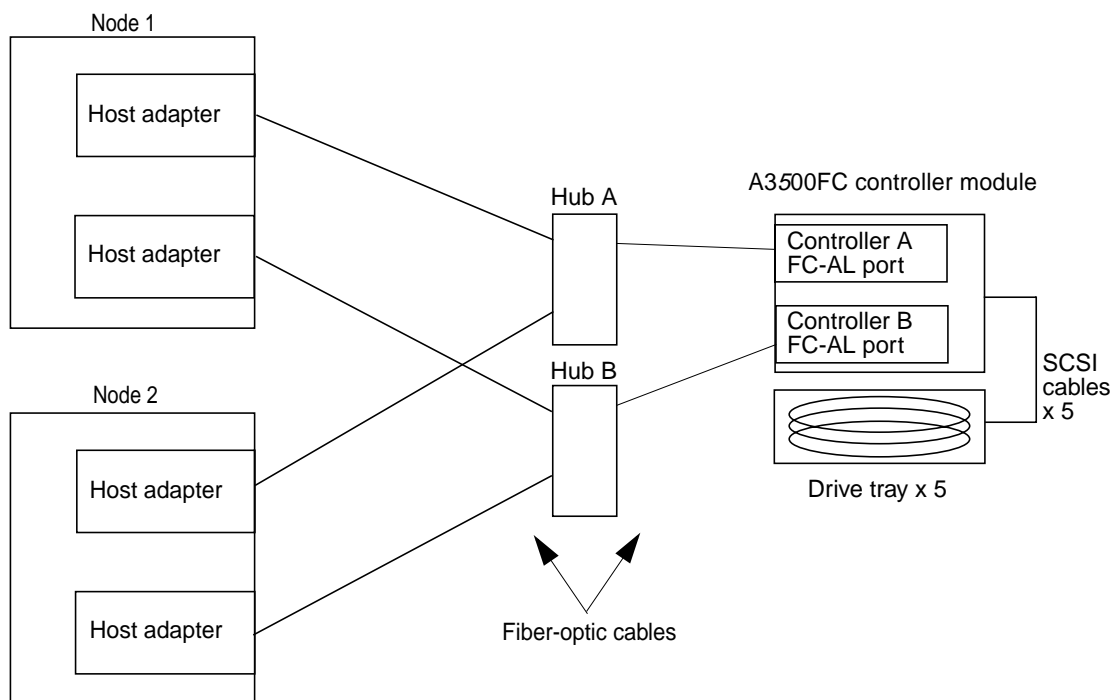

FIGURE 7-2 Sample StorEdge A3500FC System Cabling
- See FIGURE 7-2 for a sample StorEdge A3500FC system cabling.